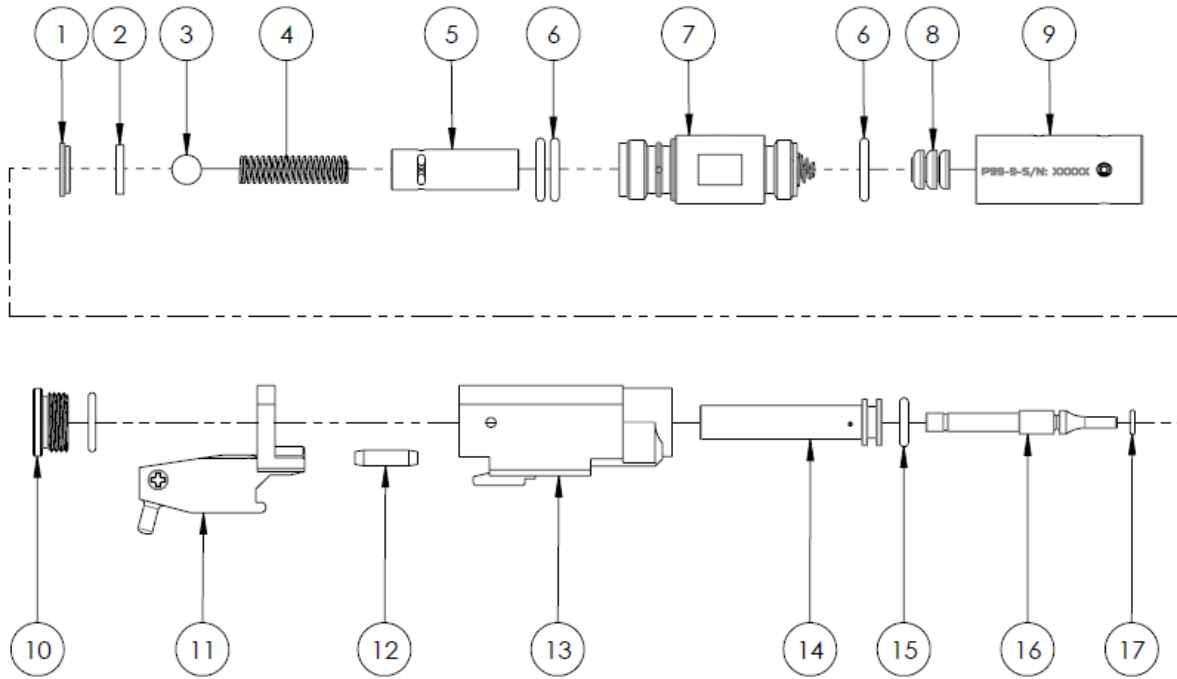

Figure 1: Barrel Assembly
- After every use, lubricate the Piston and Striker (Figure 1, #14, #16) through the hole in the side of the Barrel Block (Figure 1, #13) with a small amount of Slip 2000 or Lucas Oil.
This Section details how to inspect the striker and piston O-rings (Figure 1). These O-rings are essential to ensure consistent and high-quality recoil and should be cared for accordingly.
- Unscrew the charge chamber (Figure 1, #7) from the barrel block (Figure 1, #13) using a ½ inch wrench. Set the charge chamber aside, being careful not to lose or remove any components. Remove both the piston and striker from the Barrel Block (Figure 1, #14, #16, #13) and wipe down with a rag or paper towel.
- Inspect both the piston and striker O-rings (Figure 1, #15, #17) and replace if any damage/wear is present.
- Use a cotton swab to clean the inside of the piston as well as inside of the barrel block (Figure 1, #14, #13), making sure to remove all buildup or debris.
Inspect the air transfer tube (Figure 1, #12) once a month. If any excessive wear or damage is noticed then it should be replaced. Refer to Figure 4 for an example of a worn air tube.
- Unscrew the charge chamber (Figure 1, #7) from the barrel block (Figure 1, #13) using a ½ inch wrench on the charge chamber and an adjustable wrench on the barrel block.
- Remove the brass washer (Figure 1, #1), charge chamber seal (Figure 1, #2), ball bearing
(Figure 1, #3), and charge chamber spring (Figure 1, #4).
- Inspect the charge chamber seal and charge chamber outer seals (Figure 1, #6). Replace the seals if any damage/wear is present.
Use a ½ inch wrench to hold the charge chamber (Figure 1, #7) and use your hand to unscrew the Laser Housing (Figure 1, #9). Replace the Battery Pack (Figure 1, #8) and reassemble.